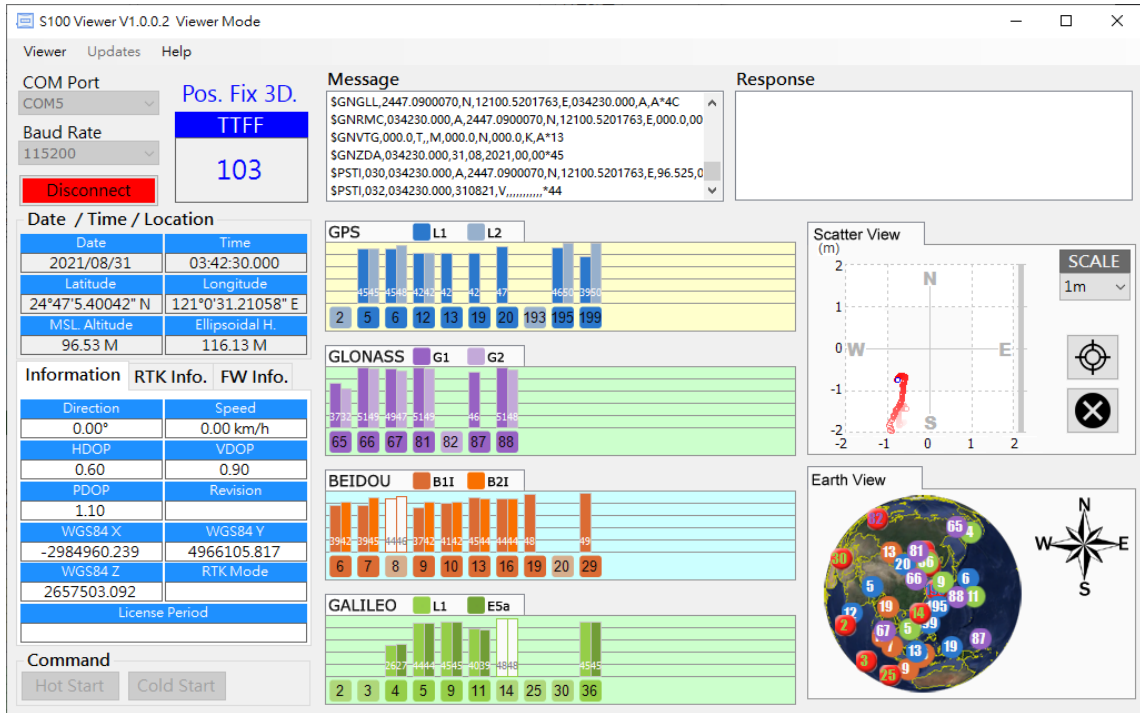

Figure 3-5
- NMEA output should be seen on the Message screen. If having good sky view with sufficient number of satellites tracked, the signal bar will turn solid and have position fix. See Figure 3-5.